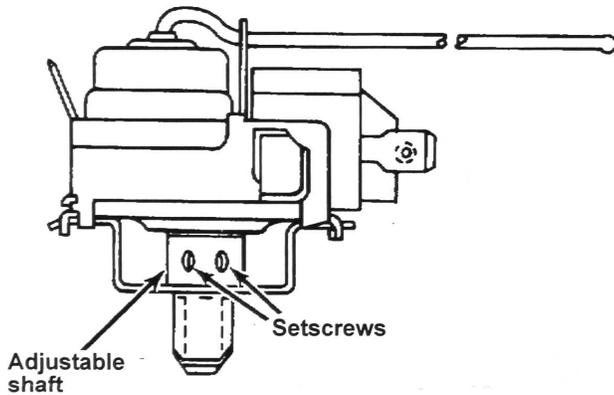

Figure 1
- a. Loosen setscrews with key in bag (see Figure 1).